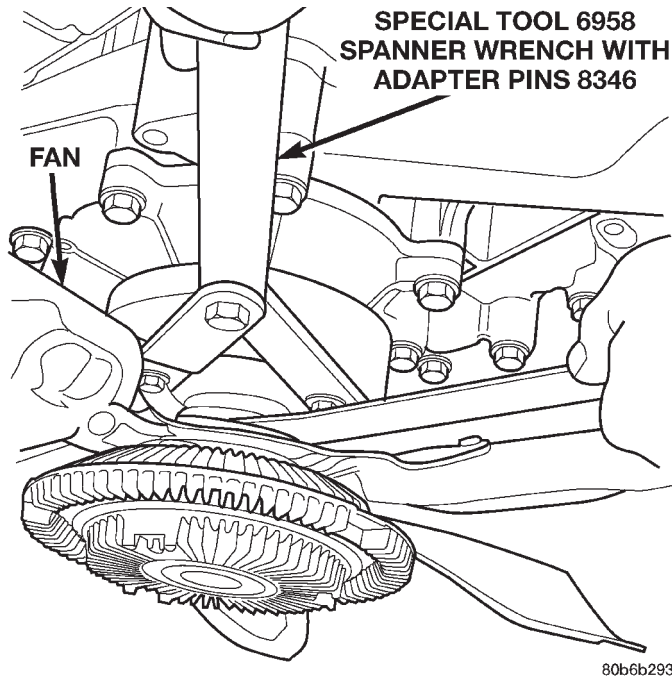

Fig. 107 Fan Assembly—Removal
(6) Using Special Tools 6958 spanner with adapter pins 8346 loosen fan and viscous assembly from water pump (Fig. 107).
(7) Remove fan and viscous assembly
(8) Using Special Tools 6958 spanner with adapter pins 8346 tighten fan and viscous assembly to water pump (Fig. 107).
(9) Install upper radiator hose.
(10) Install A/C compressor and tighten fasteners to 54 N·m (40 ft. lbs.).
(11) Install accessory drive belt refer to Group 7, Cooling System for procedure.
(12) Refill cooling system. Refer to Group 7, Cooling System for procedure.